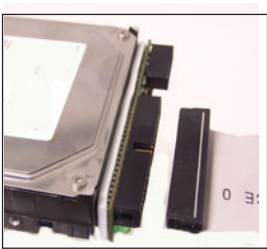

Figure 4
5. Connect the IDE cable to the *IDE to SATA HDD Adapter*, refer to **Figure 4** and **5**.